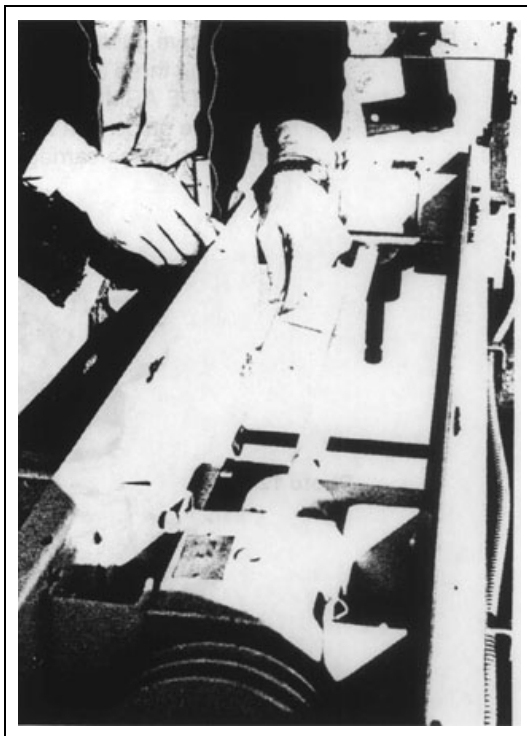

Figure 4K
Two (2) hold-downs are used on either a 4 or 6 auger unit. When hold-downs are properly positioned, there will be 1/4" clearance between the hold-down and the main frame. (See Figure 4K.)